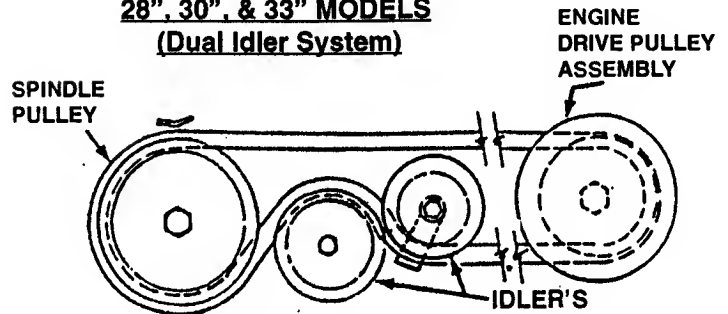

FIGURE 3.5
- On 28", 30", and 33" Models, check belt for excessive wear or damage and replace if necessary; there are no adjustments on these models. See Figure 3.5.